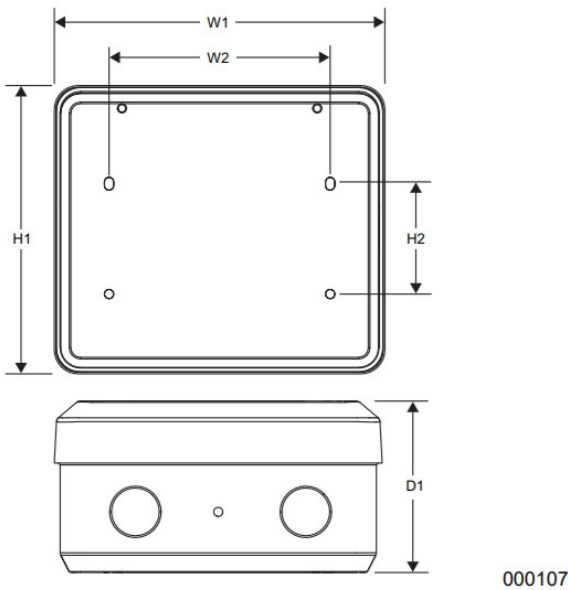

Figure 3-2. Mounting Dimensions
- Hold SMM enclosure against the mounting surface with arrows (B) pointing up, and mark or drill four mounting holes (C). See **Figure 3-2** for mounting dimensions if necessary.